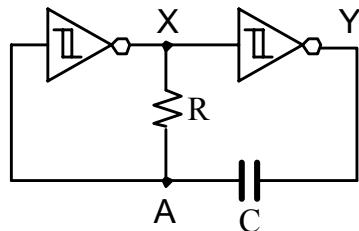

Figure 0.8 A circuit composed of Schmitt triggers.
5. Consider the following latch based pipeline circuit shown in Figure 0.8.